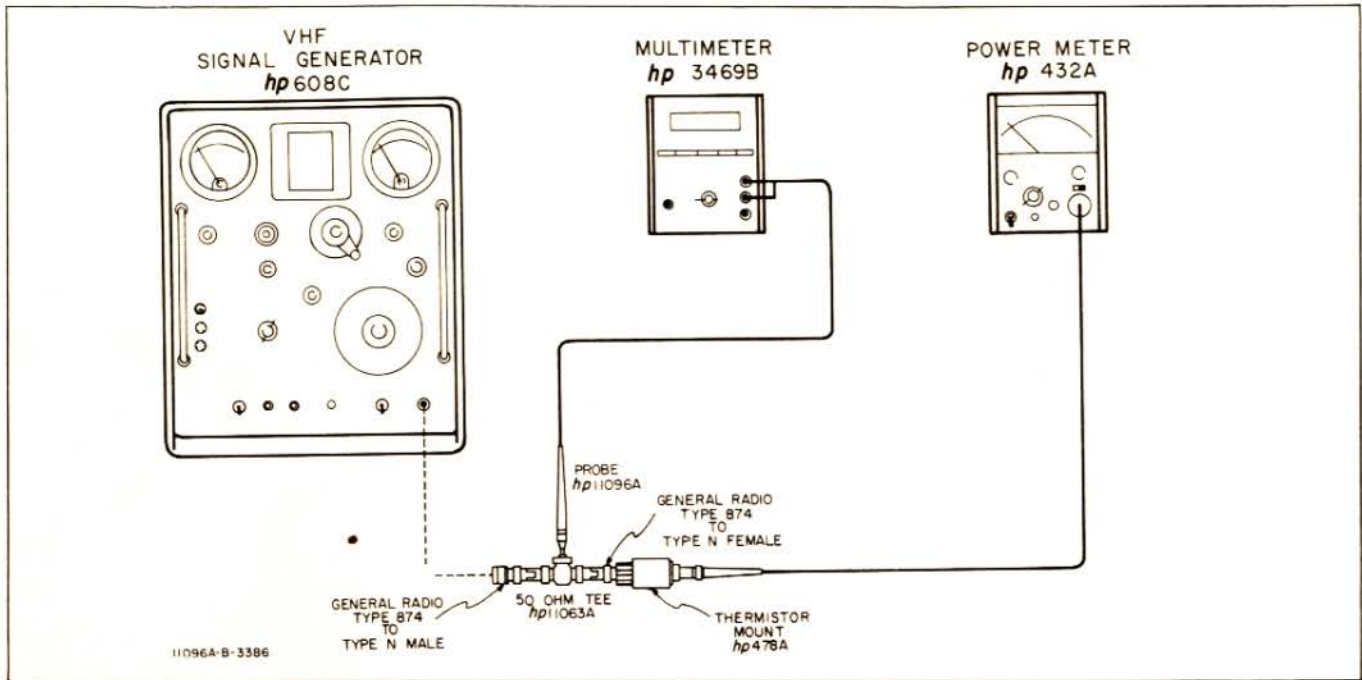

Figure 4. High Frequency Response Check
- a. Connect the test equipment to 11096A Probe as illustrated in Figure 4; set dc voltmeter on 10 volt range.